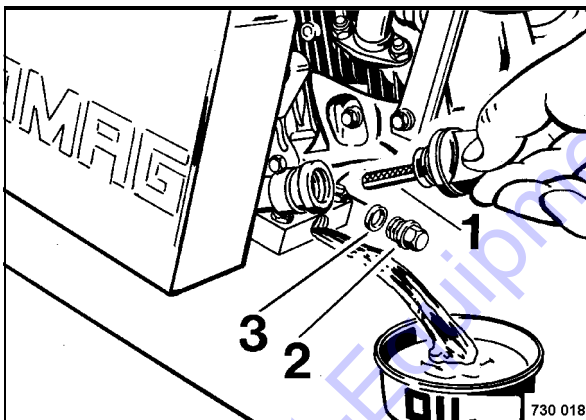

Fig. 33
- Unscrew the oil filler cap 1 (Fig. 33).
- Unscrew oil drain plug (2) and catch running out old oil.
- Clean the drain plug and turn it in with a new seal ring (3).